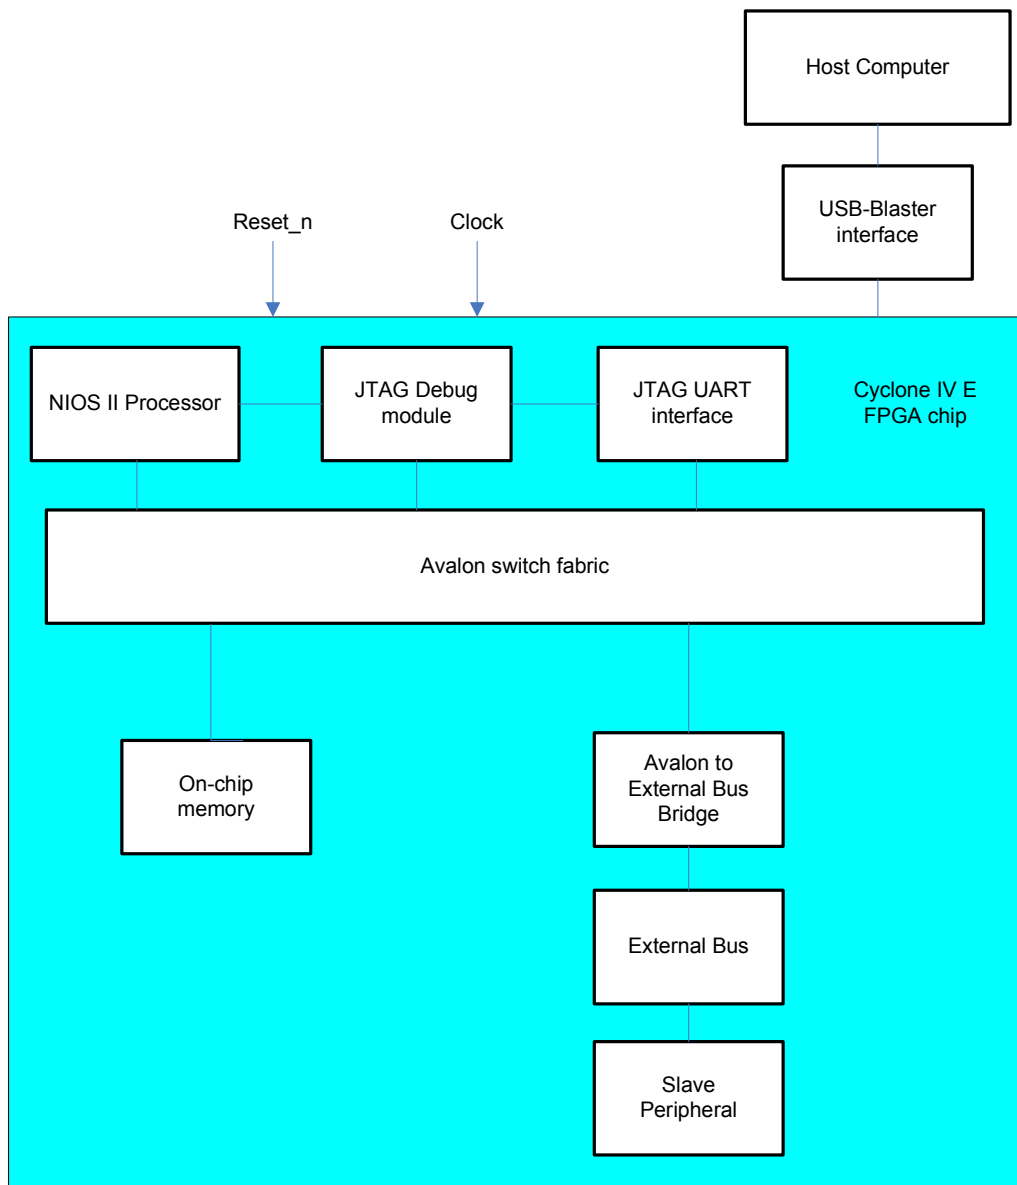
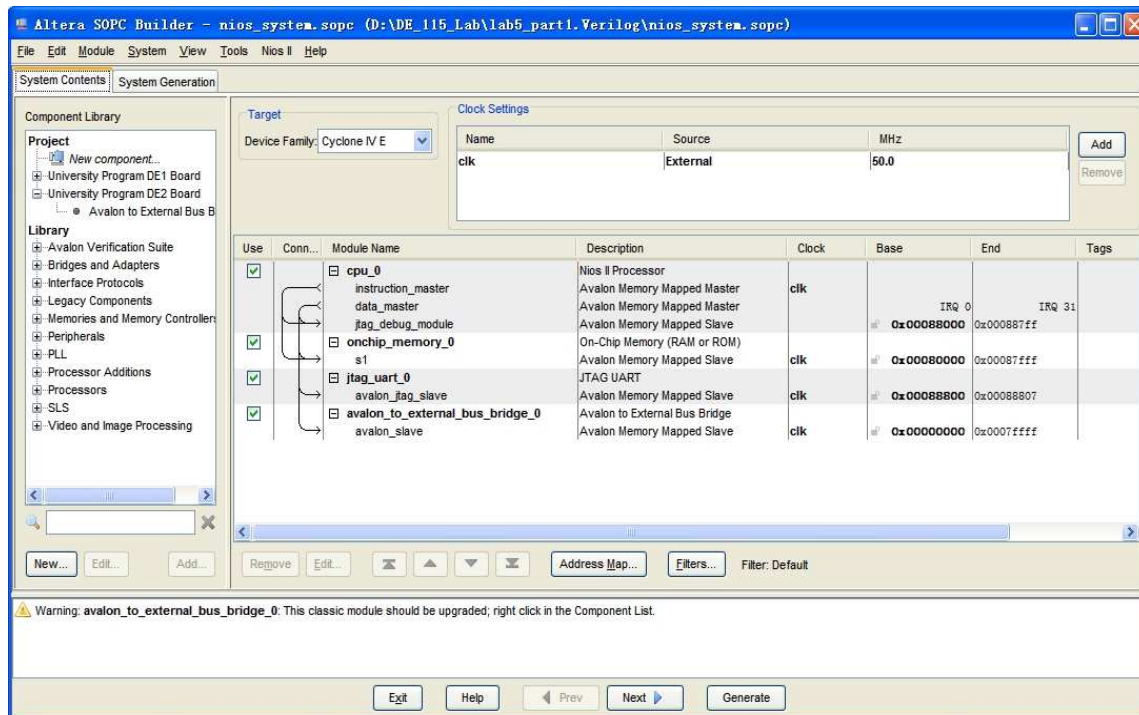

Figure 2. The desired Nios II system
Figure 3. The Nios II system specified in the SOPC Builder.
Figure 2 indicates the system that we wish to design and implement. The part of the system that consists of a Nios II/s processor, a JTAG UART, an on-chip memory block and an Avalon to External Bus Bridge can be generated using the SOPC Builder. This should produce the system given in Figure 3. The slave peripheral will be a Verilog/VHDL module which you will design. The Avalon to External Bus Bridge connects the previously discussed external bus to the Avalon Switch Fabric of the Nios II system. The switch fabric is the main interconnection network for peripherals in a system generated by the SOPC Builder.
Once the system in Figure 3 has been generated, modify the Verilog/VHDL module, Peripheral on External Bus to connect it to the Avalon to External Bus Bridge signals. Also, modify this module such that it contains four 16-bit registers. Each of these registers should be mapped to one quarter of the address space assigned to the Avalon to External Bus Bridge by the SOPC Builder. Use the 7-segment displays *HEX3 – 0* to display the contents of these registers. Since only one register can be displayed at one time on the 7-segment displays, use two toggle switches, *SW1* and *SW0*, to choose which register to display. These modules, in addition to the modules generated by the SOPC Builder, should implement the desired system in Figure 2.
4. From the **System** menu, select **Auto-Assign Base Addresses**. You should now have the system shown in Figure 3.
1. Create a new project called *Lab5\_Part2*. Use the same SOPC Builder project settings as in Part 1 of this exercise, and generate a Nios II system that corresponds to Figure 3.
2. Use the SOPC Builder to generate the system in Figure 3, but choose the address range of 1024 Kbytes for the Avalon to External Bus Bridge component. Note that this will change the base addresses that the SOPC Builder will auto-assign to the components of the system.